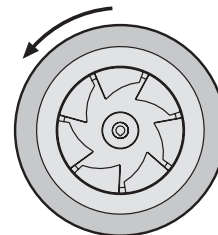

Figure 4
4. Start the fan and shut it off immediately to check rotation of the wheel, see Figure 4.
Wheel Rotation: Direction of wheel rotation is critical. Reversed rotation will result in poor air performance, motor overloading and possible burnout. Check wheel rotation by momentarily energizing the unit. Rotation should be counterclockwise when viewed from the fan inlet as shown in Figure 4. If wheel rotation is incorrect, switch two of the wiring leads for 3 phase power supply or check motor wiring for single phase power supply. Fan rpm should be checked and verified with a tachometer.